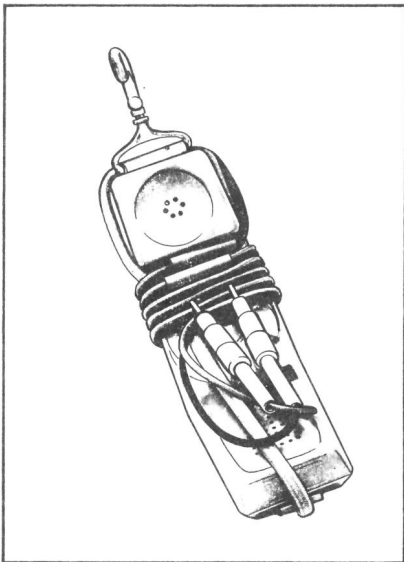

FIGURE 7. Method of Wrapping Cord When Handset is Not in Use
2.10 When the handset is not in use, the cord should be wrapped as shown in Figure 7.